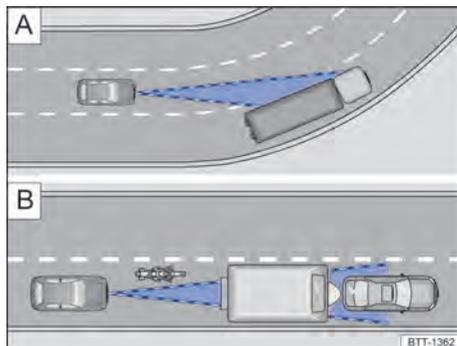

Fig. 101 A Curve condition. B Vehicles outside the radar sensor range
The front radar sensor always performs straight-line measurements. Therefore, vehicles in sharp curves may be accidentally detected or vehicles in front may not be detected → Fig. 101 [A].
- Vehicles driving out of the sensor's range, close to the vehicle, such as motorcycles → Fig. 101 [B].